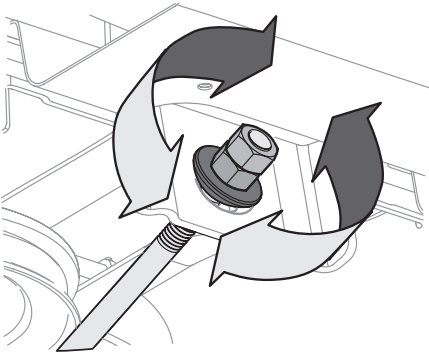

Fig. 41
4. To **raise** the front of the deck, loosen the outer nut then tighten (thread inward) the inner nut against the front hanger bracket (Fig. 41). When proper adjustment is achieved, re-tighten the outer nut to 25-30 ft-lbs (34 mm-41 N-m).
5. To **lower** the front of the deck, loosen the outer nut then loosen (thread outward) the inner nut, away from the front hanger bracket (Fig. 41). When proper adjustment is achieved, re-tighten the outer nut.